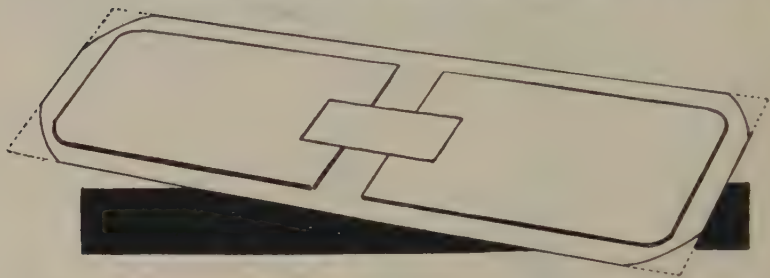

FIG. 239—MAKING PATTERN FOR CUTTING LEATHER FOR COVER
6. Remove book, lay out cover boards on piece of tough paper and mark out your pattern for cutting leather. (Fig. 239.)